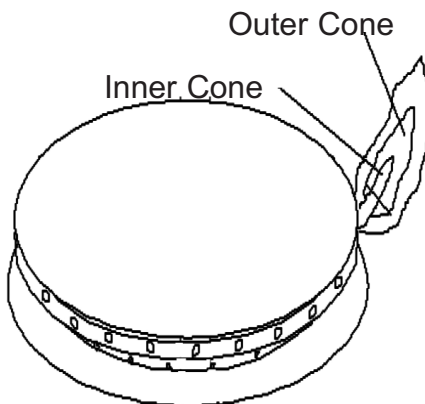

Figure 28
- iii) Check the quality of the flame. The top burners should have a steady, relatively quiet flame with a 1/2" (13mm) sharp blue cone. There should be no orange flame. The oven burner should have a clean blue flame with inner cones of 1/4" to 1/2" (6.35mm to 13mm). See figure 28.